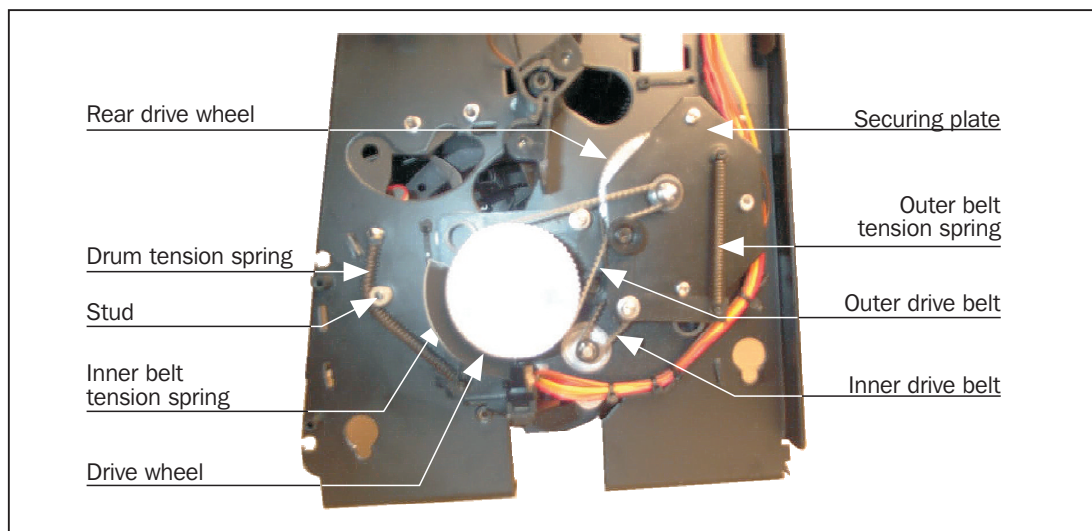

Figure 6.5: Replacing the drive belts
10. Take the other replacement drive belt and install it in the front position as shown in Figure 6.5.
12. Replace the three tension springs in their original positions (see Figure 6.5).